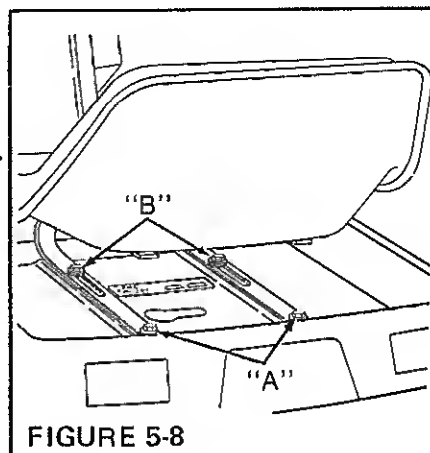

FIGURE 5-8
To adjust seat, remove the two rear capscrews (A) Figure 5-8. Loosen the two front capscrews (B) and reposition seat by sliding either forward or backward.